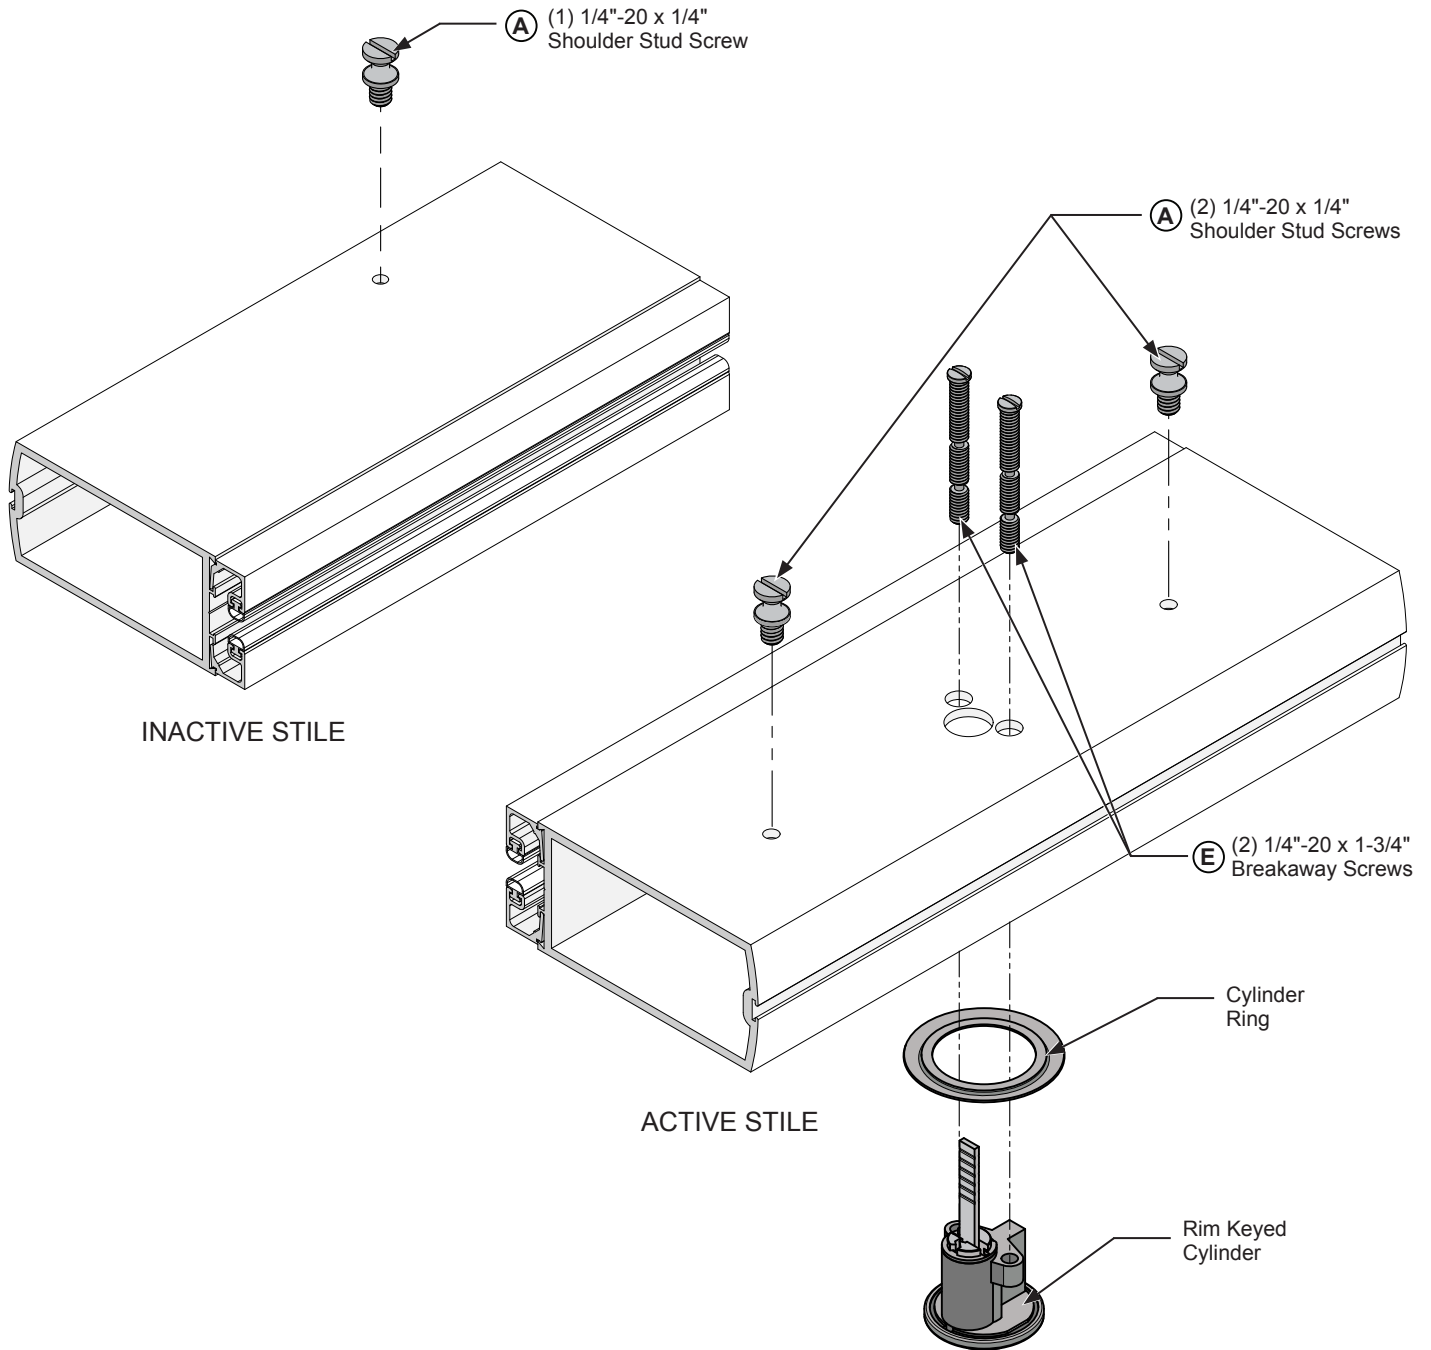

FIG. 8
1. Insert the rim keyed cylinder assembly into the active stile and fasten with (E) (2) 1/4"-20 x 1-1/4" breakaway screws (Fig. 8).
2. Attach the (A) (2) 1/4"-20 x 1/4" shoulder stud screws to the active stile. (Fig. 8)
3. Attach (A) (1) 1/4"-20 x 1/4" shoulder stud screw on the Inactive Stile. (Fig. 8)